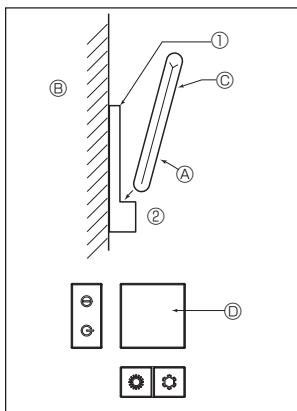

Fig. 7-7
2) Installation method (Fig. 7-7)